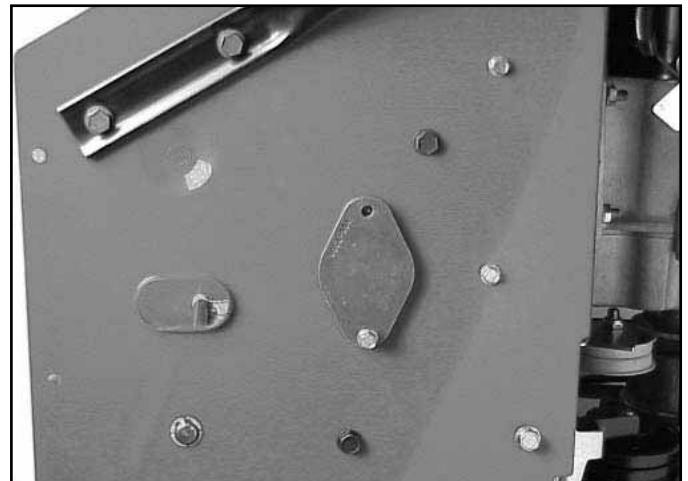

Fig 133 MVC-864XYZ.jpg
16. If not already done, remove the bearing retainer that holds the hex shaft (Fig. 133).